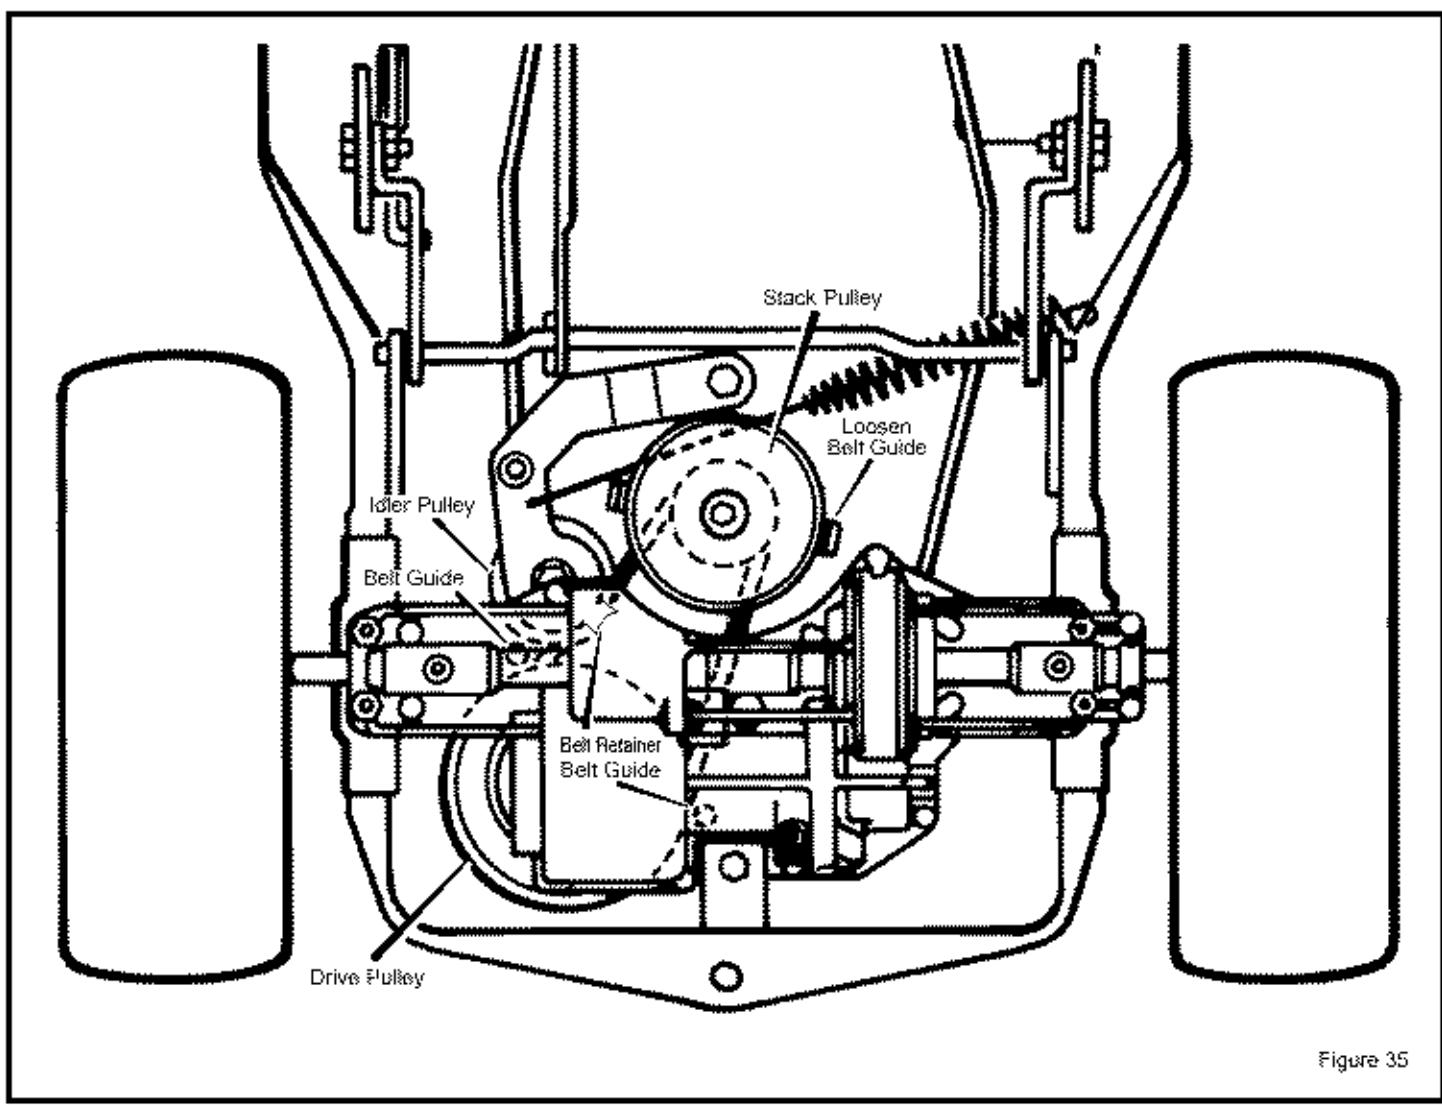

Figure 35
3. Try to pull the motion drive belt off the **drive pulley**. If the **belt guides** are too close to the **drive pulley**, loosen the **belt guides** (Figure 35).